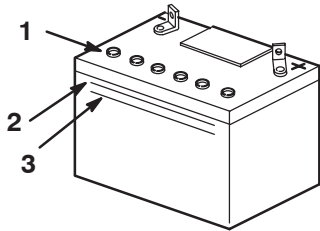

Figure 33
2. Look at the side of the battery. The electrolyte must be up to the Upper line (Fig. 33). Do not allow the electrolyte to fall below the Lower line (Fig. 33).
3. Remove the vent caps from the battery (Fig. 33).
4. Slowly pour distilled water into each battery cell until the electrolyte level is up to the Upper line (Fig. 33) on the battery case.
5. Wait five to ten minutes after filling the battery cells. Add distilled water, if necessary, until the electrolyte level is up to the Upper line (Fig. 33) on the battery case.